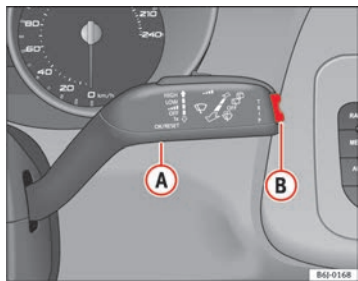

Fig. 33 Windscreen wiper lever: button A and rocker switch B
- With the ignition switched on, briefly press button ⇒ fig. 33 **A** on the windscreen wiper lever to move from one memory to another.